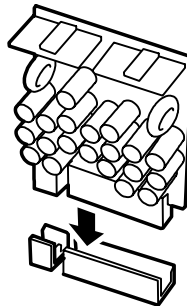

Figure 4-14. Installing a VRM
- 17.** Install the VRM, as shown in Figure 4-14. Each processor has a VRM associated with it.